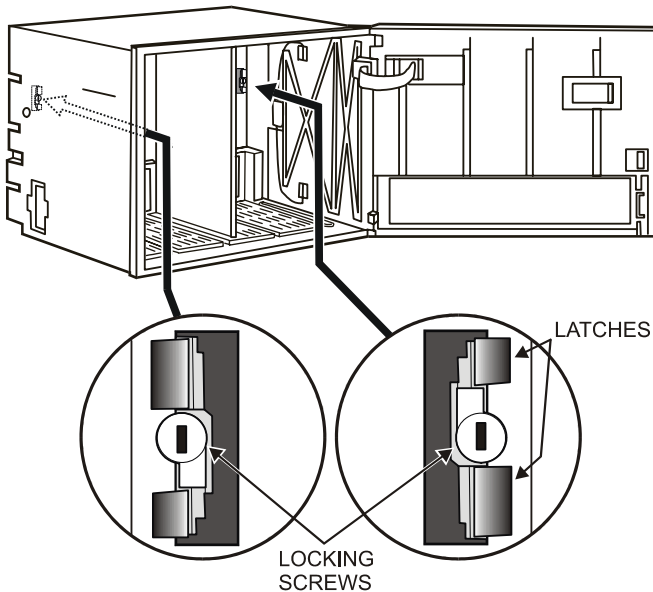

Fig. 13. Housing locking screws and latches
4. Make sure that the locking screws are positioned as shown in Fig. 13.